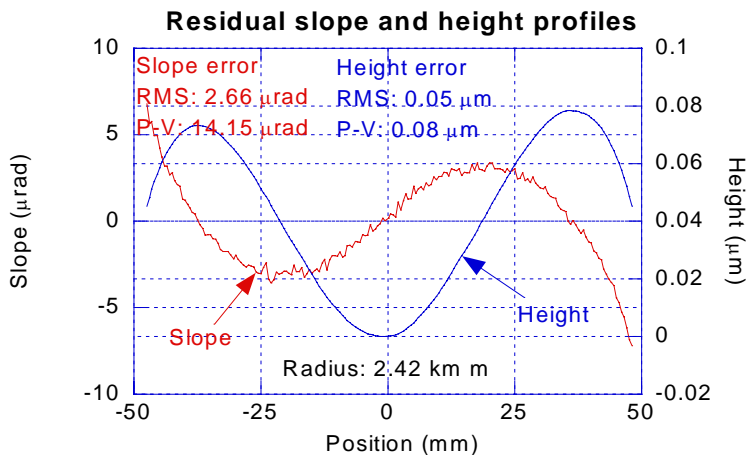

Figure 3. Residual slope and height profiles of the mirror. (Length: 96 mm)
- Figures 3 and 4 show the residual slope and height profiles with different lengths.